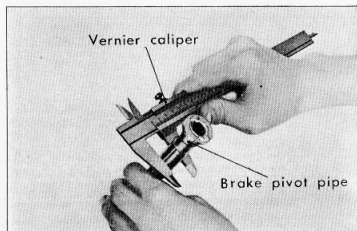

Figure 4-36. Measuring brake pivot pipe diameter
- (1) Inspect the brake pedal spring, main stand spring and the rear brake rod spring for loss of tension and corrosion. If loss of tension or corrosion is excessive, the spring should be replaced.
- (2) Inspect the brake pivot pipe and brake pedal for looseness. If excessively loose, the part should be adjusted to conform with the standard or replaced. (Fig. 4-36)
- (3) Check the rear brake pivot pipe outside diameter.